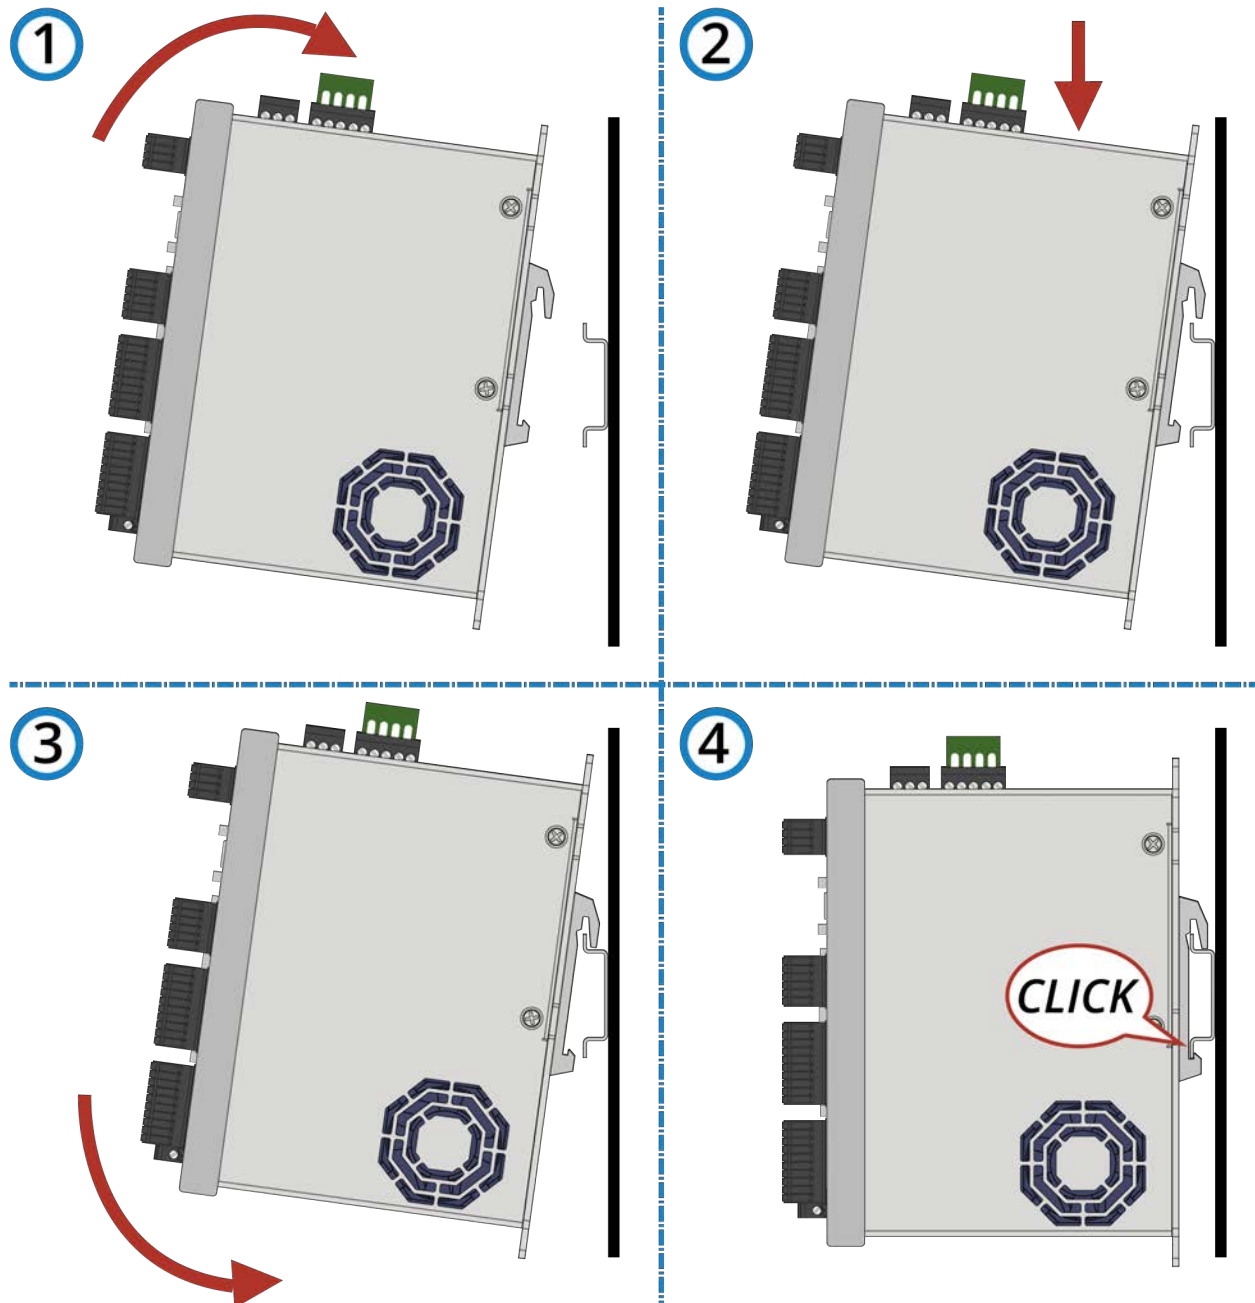

Figure 1-8: Drive Installation
1. Tilt the drive (refer to Figure 1-8).